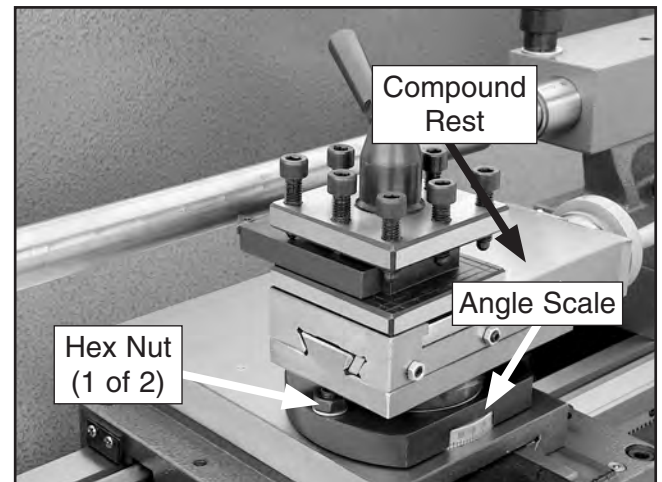

Figure 42. Compound rest.
1. Loosen the two hex nuts at the base of the compound rest (1 of 2 shown in **Figure 42**).